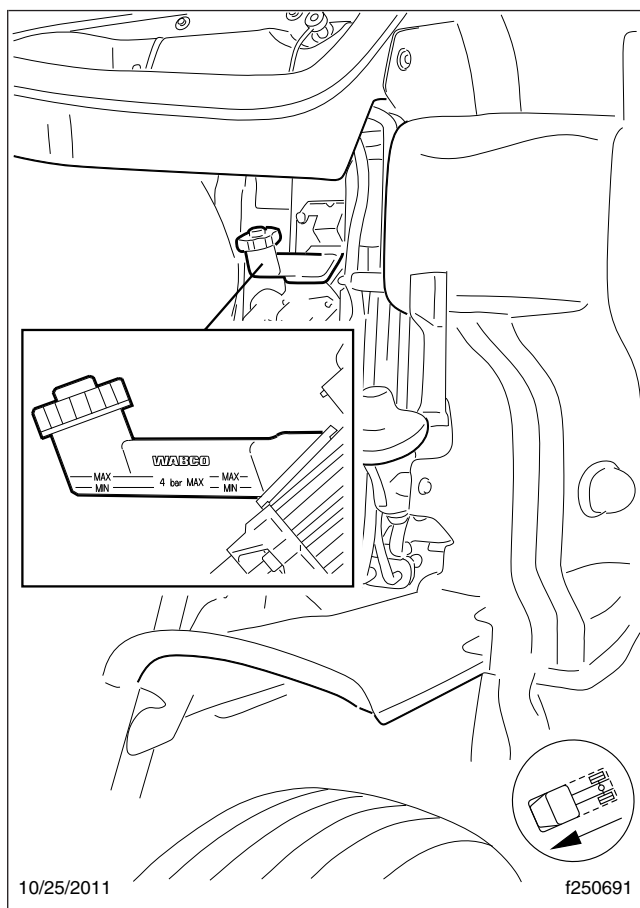

Fig. 5, Reservoir, Hydraulic Clutch Control
If the fluid level is below the MIN line, fill the reservoir with new DOT 4 brake fluid from a tightly sealed container until the level reaches the MAX line. See Fig. 5.
3. Remove the reservoir lid (see Fig. 5) and install the pressure bleed adaptor on the reservoir.
- 2. Remove the reservoir lid and fill the reservoir (see Fig. 5) with new DOT 4 brake fluid from a tightly sealed container.